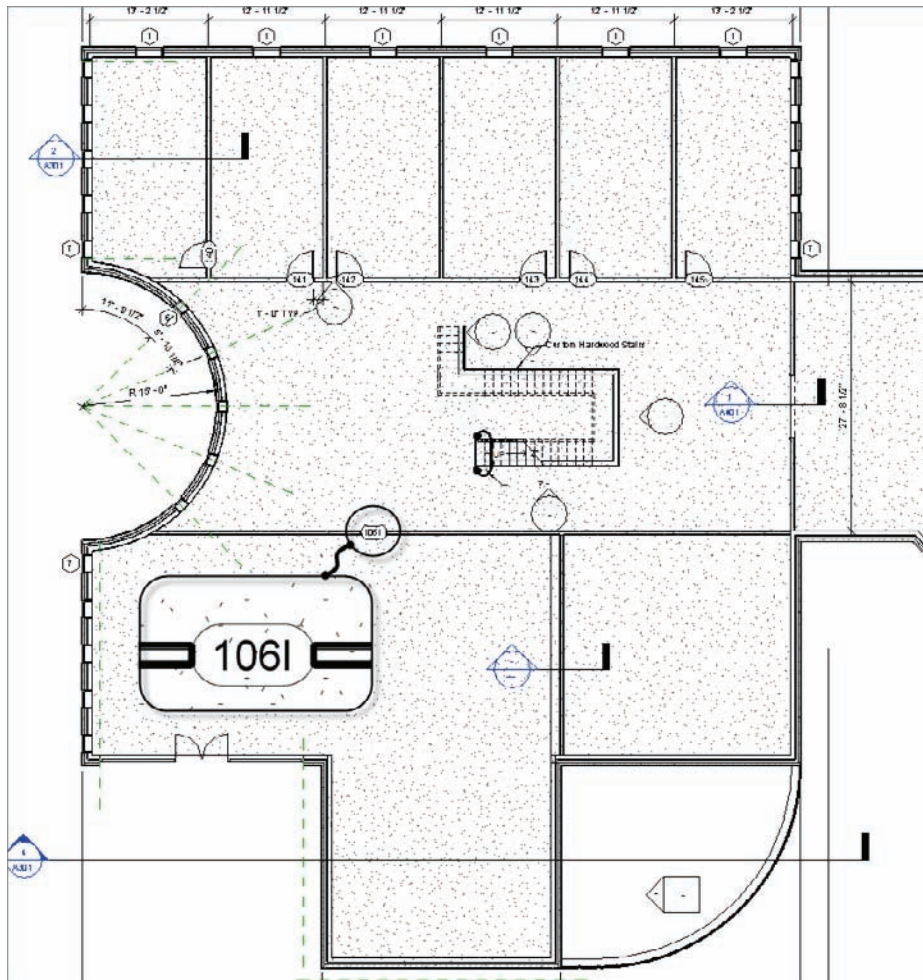

FIGURE 17.21 Adding the family to the project
15. Insert the new door in the wall, as shown in Figure 17.21. (Don't worry too much about placement.)